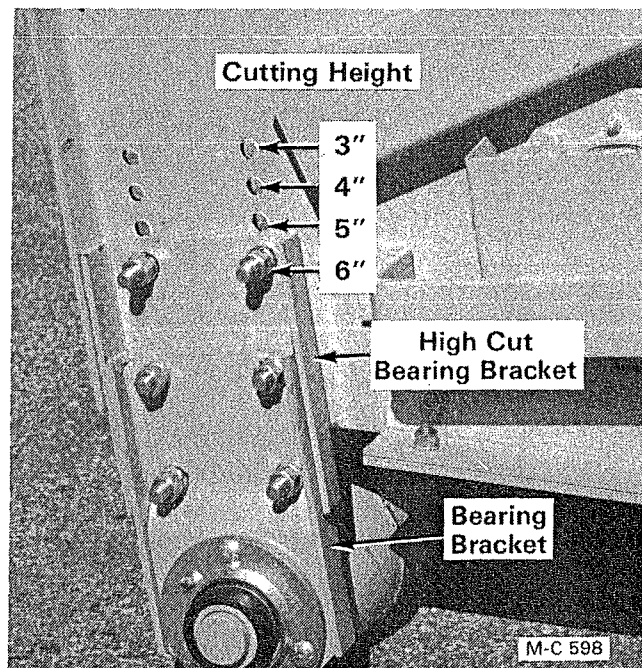

Figure 6 - Gauge Roller - Below S/N 49650
5. If the cutting height is to be more than 3", assemble the bearing brackets as shown in Figure 6. When the two top holes in the
6. Moving the bearing bracket down to the second hole will provide a 4" cutting height, the third hole 5", and the fourth hole 6" as shown in Figure 6.